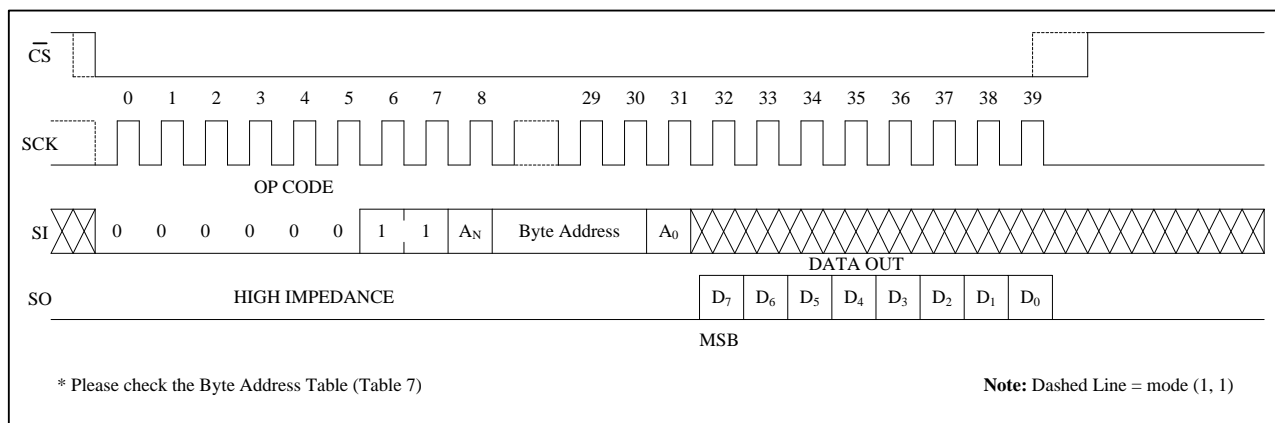

Figure 10
Read from Memory Array: To read from memory, the host sends a READ instruction followed by a 24-bit address (see Table 6 for the number of significant address bits). After receiving the last address bit, the BL25CM1A will respond by shifting out data on the SO pin (as shown in Figure 10). Sequentially stored data can be read out by simply continuing to run the clock. The internal address pointer is automatically incremented to the next higher address as data is shifted out. After reaching the highest memory address, the address counter “rolls over” to the lowest memory address, and the read cycle can be continued indefinitely. The read operation is terminated by taking $\overline{\text{CS}}$ high.
The $\overline{\text{HOLD}}$ input can be used to pause communication between host and BL25CM1A. To pause, $\overline{\text{HOLD}}$ must be taken low while SCK is low (Figure 10). During the hold condition the device must remain selected ($\overline{\text{CS}}$ low). During the pause, the data output pin (SO) is tri-stated (high impedance) and SI transitions are ignored. To resume communication, $\overline{\text{HOLD}}$ must be taken high while SCK is low.